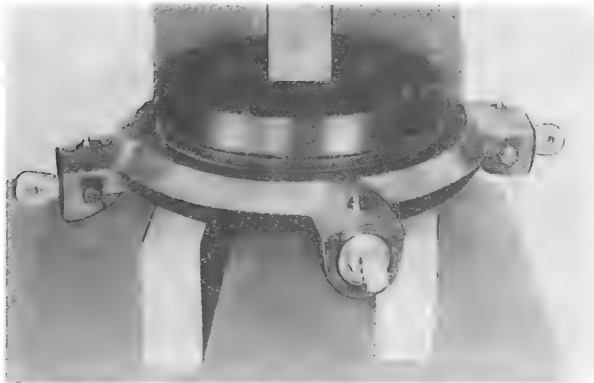

Figure 5-12. Pressing Bearing into Stationary Star
r. Apply graphite grease, Military Specification MIL-G-7187, to liner and press one bearing (5) into stationary star (4) with a plate, part No. S1670-10331-3, until evenly seated. (See figure 5-12.) Remove plate and install outer and inner race spacers (6 and 7, figure 5-8). Press the bearing